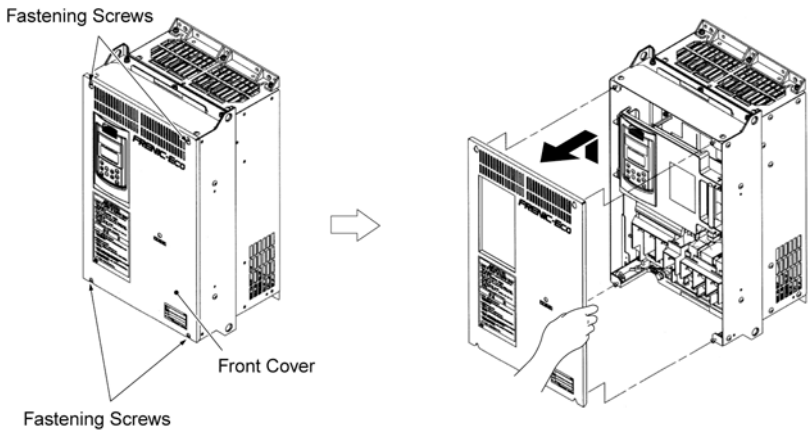

Figure 2.8 Removing the Front Cover (FRN040F1S-2U)\*
**(2) For inverters with a capacity of 40HP for 208V, 50HP for 460V to 125HP for 208V, 200HP for 460V**
- ① To remove the front cover, loosen the four fastening screws on it, hold it with both hands, and slide it upward. (Refer to Figure 2.8.)
- ② Put the front cover back in reverse order of the ①. Make sure to properly match the position of the screw holes on both of the front cover and inverter case.